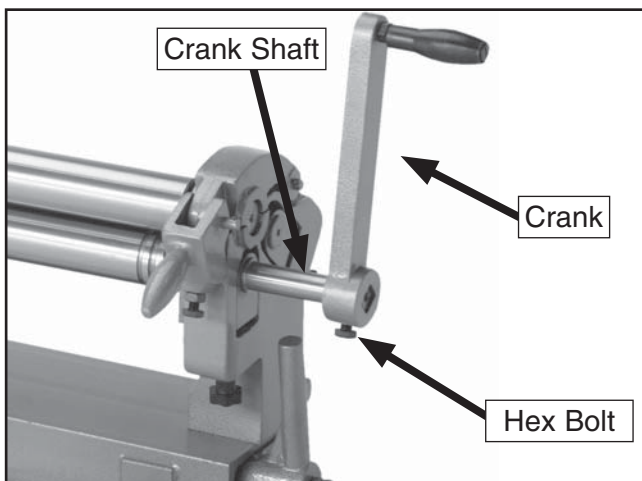

Figure 7. Crank mounting.
2. Slide the crank onto the crank shaft until the crank stops against the beveled shoulders of the shaft. Insert and tighten the M8-1.25 x 40 hex bolt to secure the crank in place (**Figure 7**).